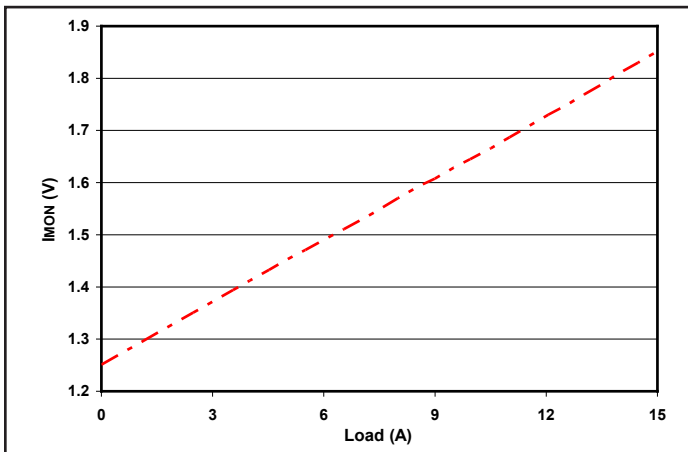

Figure 9: Imon pin voltage vs. load current at 24V input and 13.8V output. Load capacitance: 100µF electrolytic cap. C option only
**Current monitor:** The  $I_{mon}$  pin voltage tracks the output current, as shown in figure 9. Zero load current is 1.25V and maximum rated load current is 1.83V. This pin has a 49.9 Ohm output impedance.